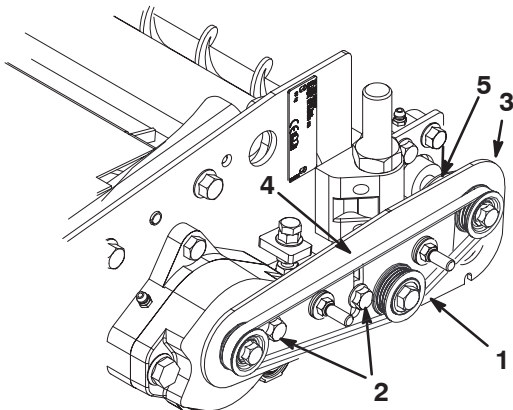

Figure 14
29. Install belt over pulleys (Fig. 14).
30. Using about 5 lbs of force, push down on rear end of pivot plate to initially set belt tension. Tighten 5/16" flange bolts securing pivot plate to main bearing housing and threaded spacer (1/2" wrench) (Fig. 14).
31. Check belt tension. Correct belt tension should have approximately 0.25" deflection at the center of the belt with 2 lbs of force applied (Fig. 14).
32. Adjust guard plate so that it covers main pivot plate hole and does not contact rear roller brush shaft (Fig. 14). Tighten bolt and flange nut securing guard plate.